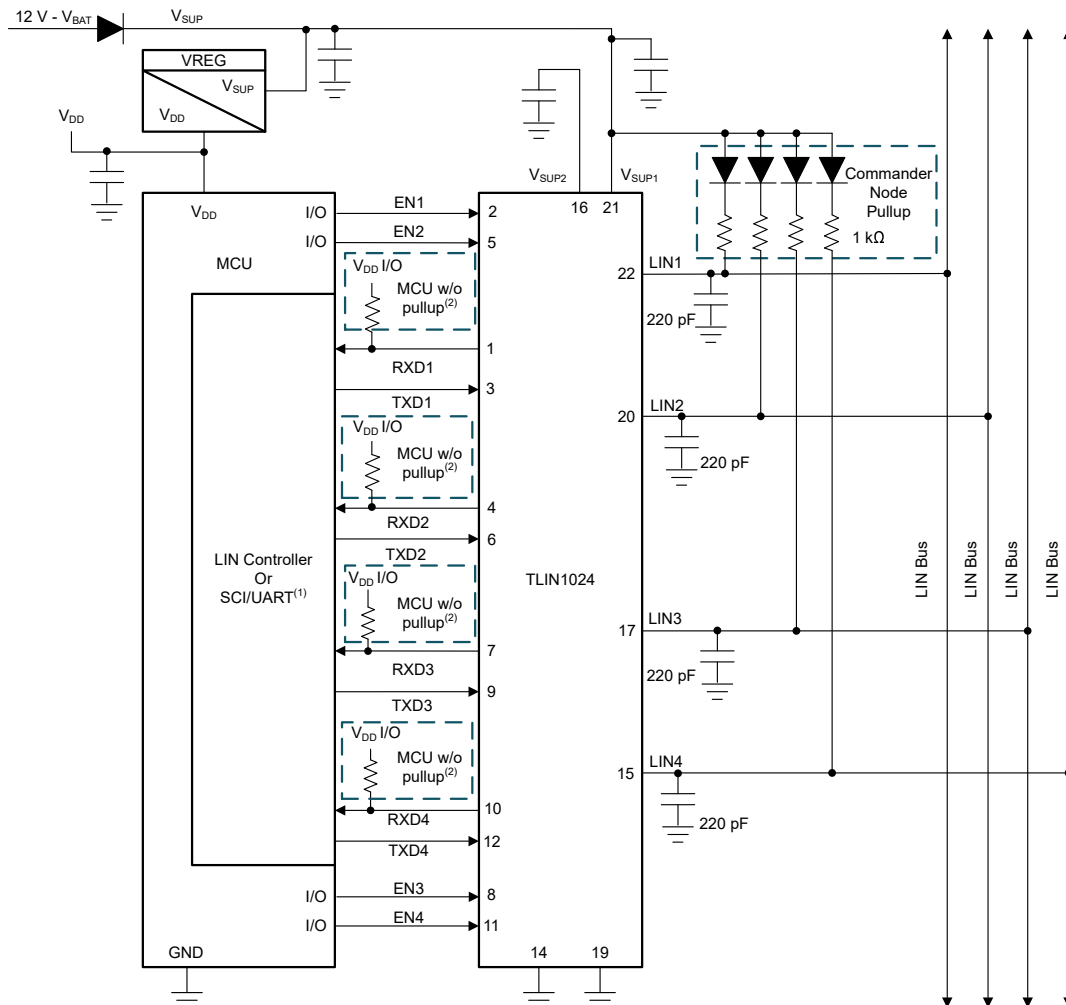

图 8-1. Typical LIN Bus
The device comes with an integrated 45 kΩ pull-up resistor and series diode for responder applications. For commander applications, an external 1 kΩ pull-up resistor with series blocking diode can be used. 图 8-1 shows the device being used in both commander and responder applications.
- **Pin 13, 18, 23 and 24 (NC):** Not Connected
- **Pins 22, 20, 17 and 15 (LIN1/2/3/4):** This pin connects to the LIN bus. For responder applications a 220 pF capacitor to ground is implemented. For commander applications an additional series resistor and blocking diode should be placed between the LIN pin and the $V_{SUP1/2}$ pin. See 图 8-1.